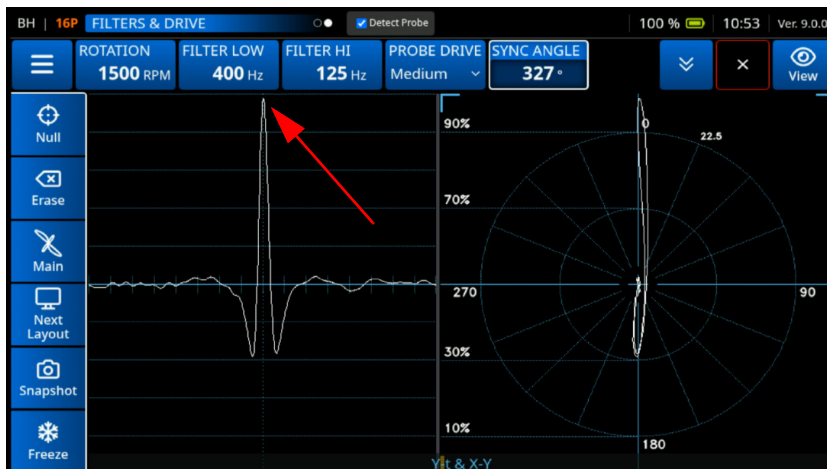

Figure 5-9 Set the Sync Angle
8. Set the **Sync Angle** to obtain a centered signal on the **Y(t)** view (See Figure 5-9 on page 197).